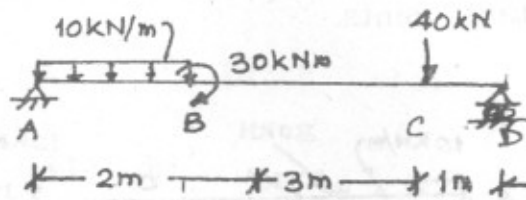

Fig. 3
4. (a) A simply supported beam ABCD is supported and loaded as shown in Fig. 3. Draw SFD and BMD and show all important points. Find out the value and location of maximum bending moment. [9]